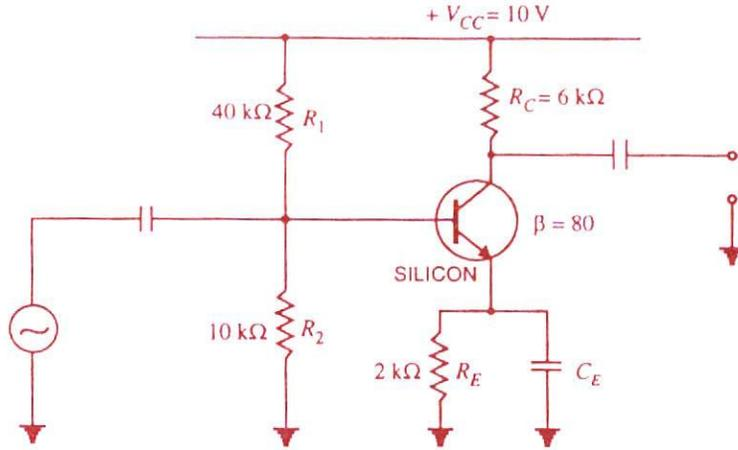

Fig. 12.23
**Example 12.11.** Determine the ac emitter resistance for the transistor circuit shown in Fig. 12.23.